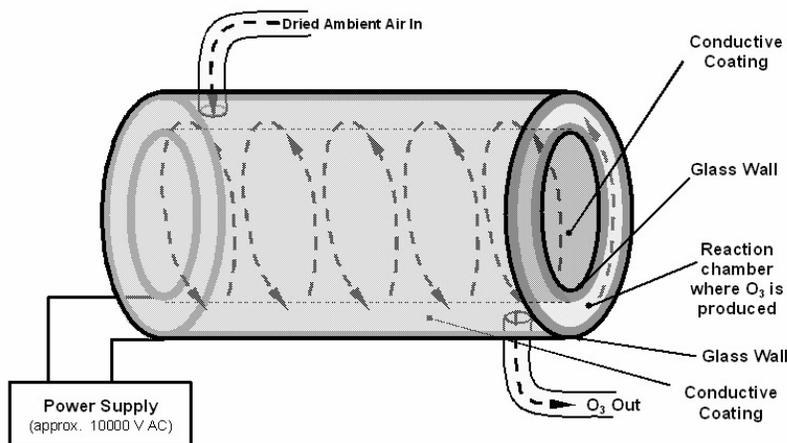

Figure 10-6: Ozone Generator Principle
In order to measure the concentration of NO or NO_x (which is defined here as the sum of NO and NO_2 in the sample gas), the M9110E periodically switches the sample gas stream through a converter cartridge filled with molybdenum (Mo, "moly") chips (Figure 10-6) heated to a temperature of 315° C. The heated molybdenum reacts with NO_2 in the sample gas and produces a variety of molybdenum oxides and NO according to Equation 10-4.
The M9110E uses a corona discharge (CD) tube for creating its O₃. Corona discharge generation is capable of producing high concentrations of ozone efficiently and with low excess heat. Although there are many cell designs, the fundamental principle remains the same (Figure 10-6).